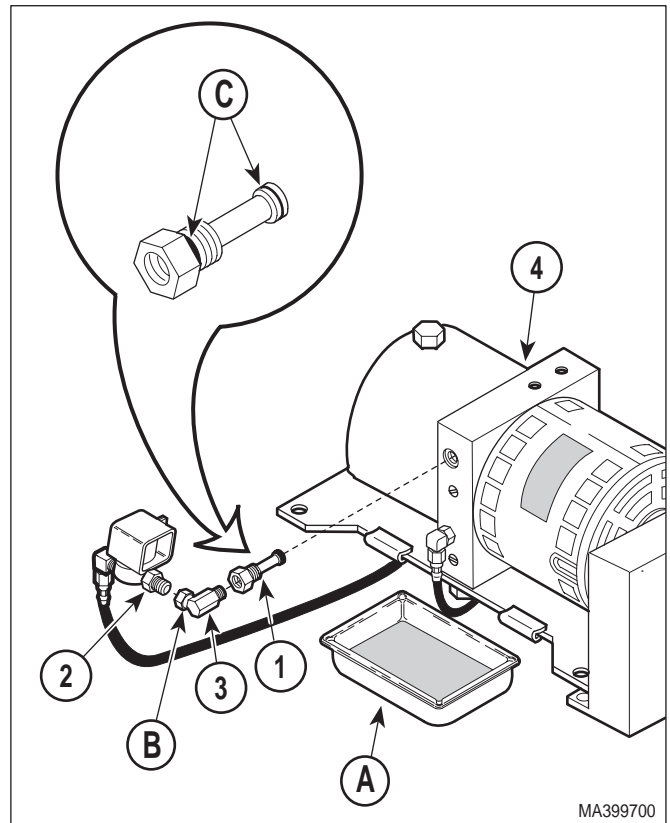

Figure 4-4. Down Functions Shuttle Valve Removal / Installation
- (3) Place rags or drain pan (A) under down functions shuttle valve (1, Figure 4-4).